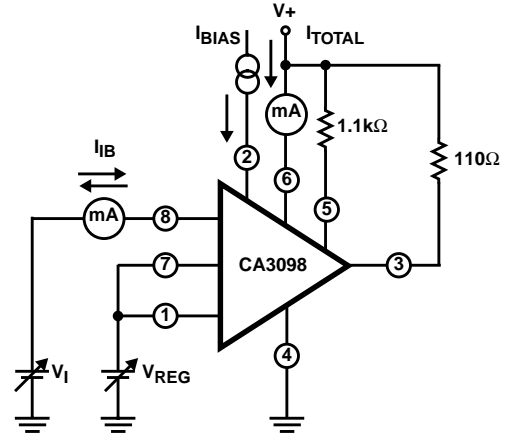

FIGURE 3. TOTAL SUPPLY CURRENT, AND INPUT BIAS CURRENT TEST CIRCUIT
1. For definition of V_{REG} see Figure 3.
2. Continuous (DC) output current must be limited to ≤40mA. For 100mA output current, the duty cycle must be ≤40%.
NOTE: See Figure 3 for definition of V_{REG}